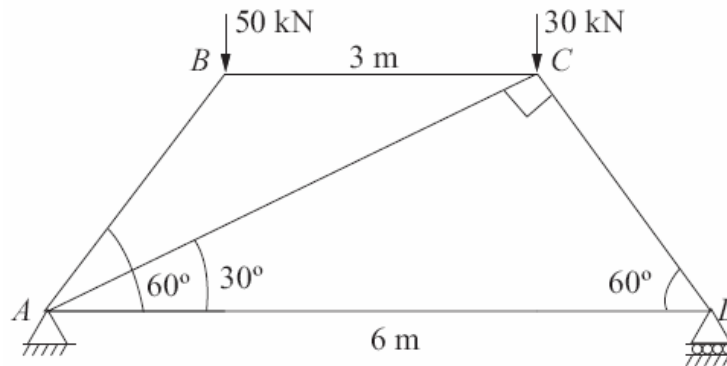

Fig.4
6. Determine the forces in the members of the truss shown in Fig.4. Using Stiffness method. All the members have equal cross-sectional areas of 1240 mm^2 . $E = 205 \text{ GPa}$. [15]